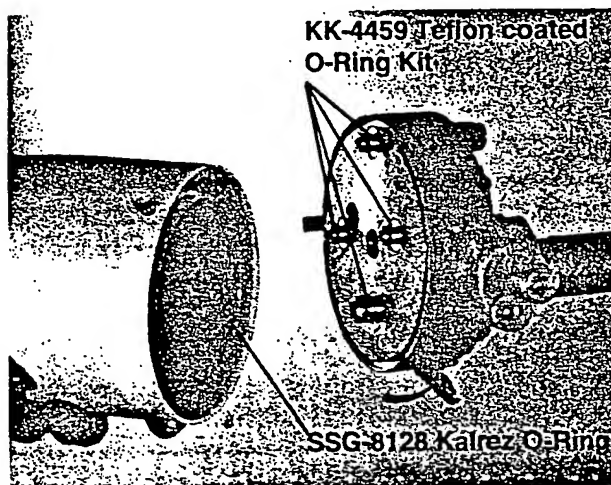

Figure 15
2. Before installing the Quick Change Assembly back into the manifold, check the condition of the four teflon-coated O-rings located on the four air fittings of the manifold. If any are damaged or missing, replace them (order KK-4459 O-ring Kit). See Figure 15.